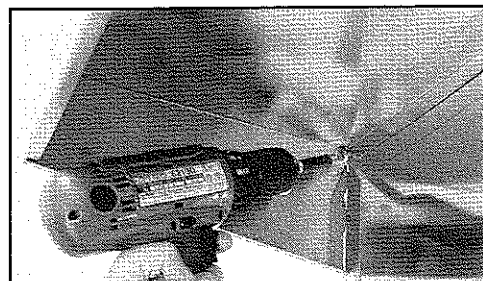

Fig. 2
2. Attach side shelves by lining up the four screw holes on the inside of the shelf. Once lined up, insert the four screws to securely lock the shelf in place. (See Fig. 2)